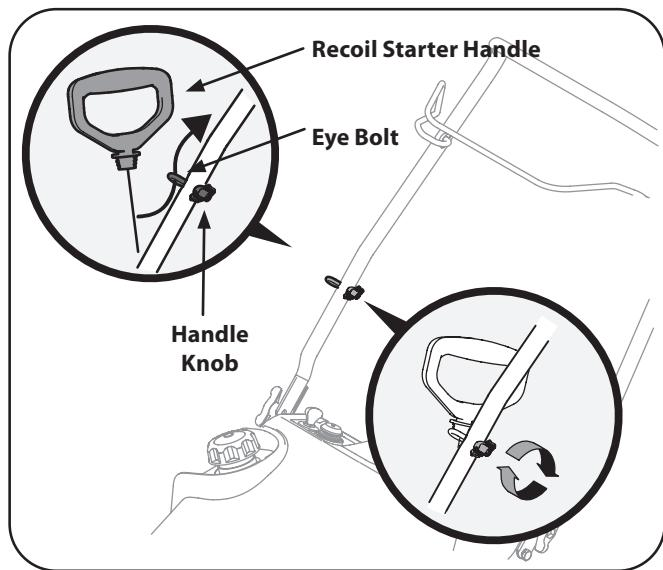

Figure 3-10
- Place the eye bolt and handle knob on the upper handle as shown in Fig. 3-10. Do not fully tighten the hardware until instructed to do so.
- Slip the recoil starter rope into the eye bolt from the back of the snow thrower. See Fig. 3-10.